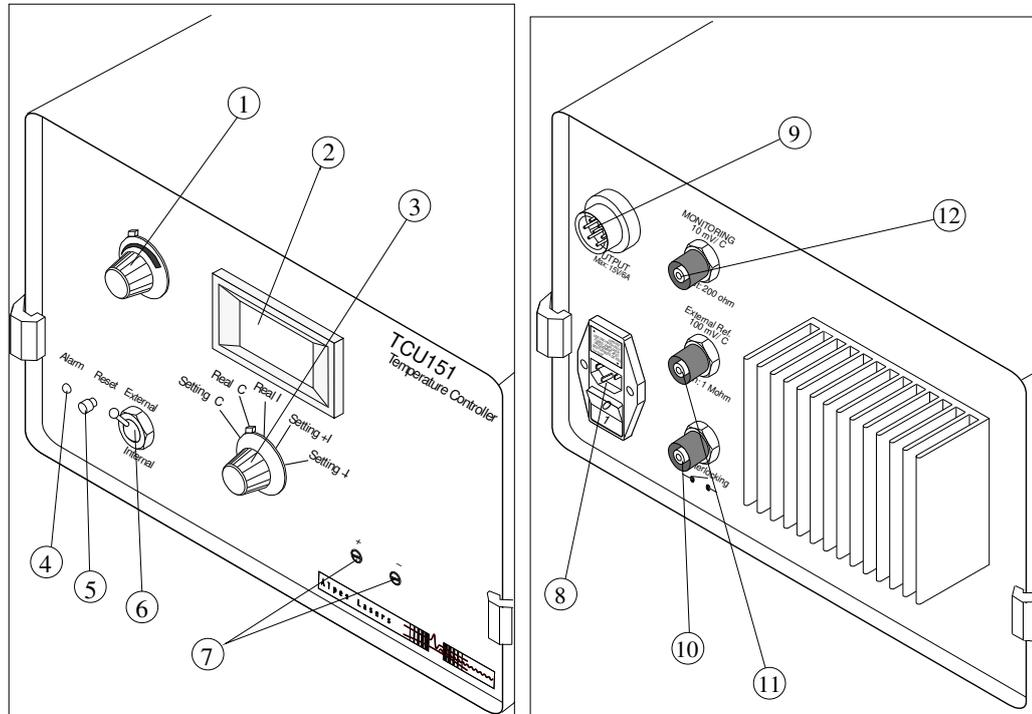

Figure 5.2.: TCU front (left) and rear (right) panels.
The TCU front and rear panels are shown in figure 5.2 and described below.
- a) select **Setting °C** using the switch (3) shown in figure 5.2 to display the desired temperature
- b) turn the knob (5) to set the temperature to the desired value
- c) select **Real °C** using the switch (3) to display the actual temperature